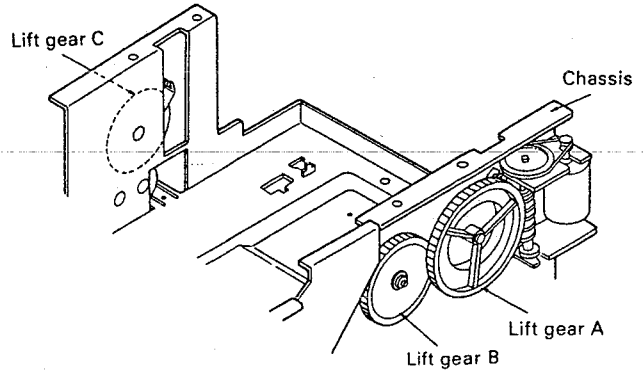

Fig. 10
- 11) The view with the lifter unit assembly removed is as shown in Fig. 10.